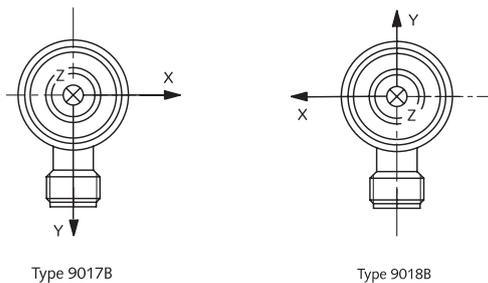

Fig. 1: Sensors Types 9017B and Type 9018B
The technical data of the Types 9017B and 9018B are identical, except that the orientation of their x- and y-axes with respect to the cable connection differs (Fig. 1). By combining both types, it is therefore possible to choose the direction of each sensors cable as required when building a dynamometer.
- 3-component force sensor with standard coordinate system (see Fig. 1)
- 3-component force sensor like Type 9017B, but with coordinate system rotated 180° about z-axis (see Fig. 1)